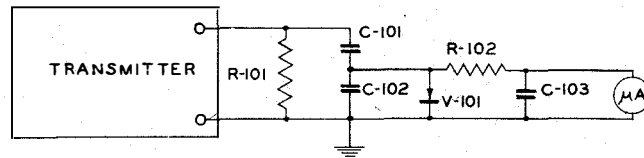
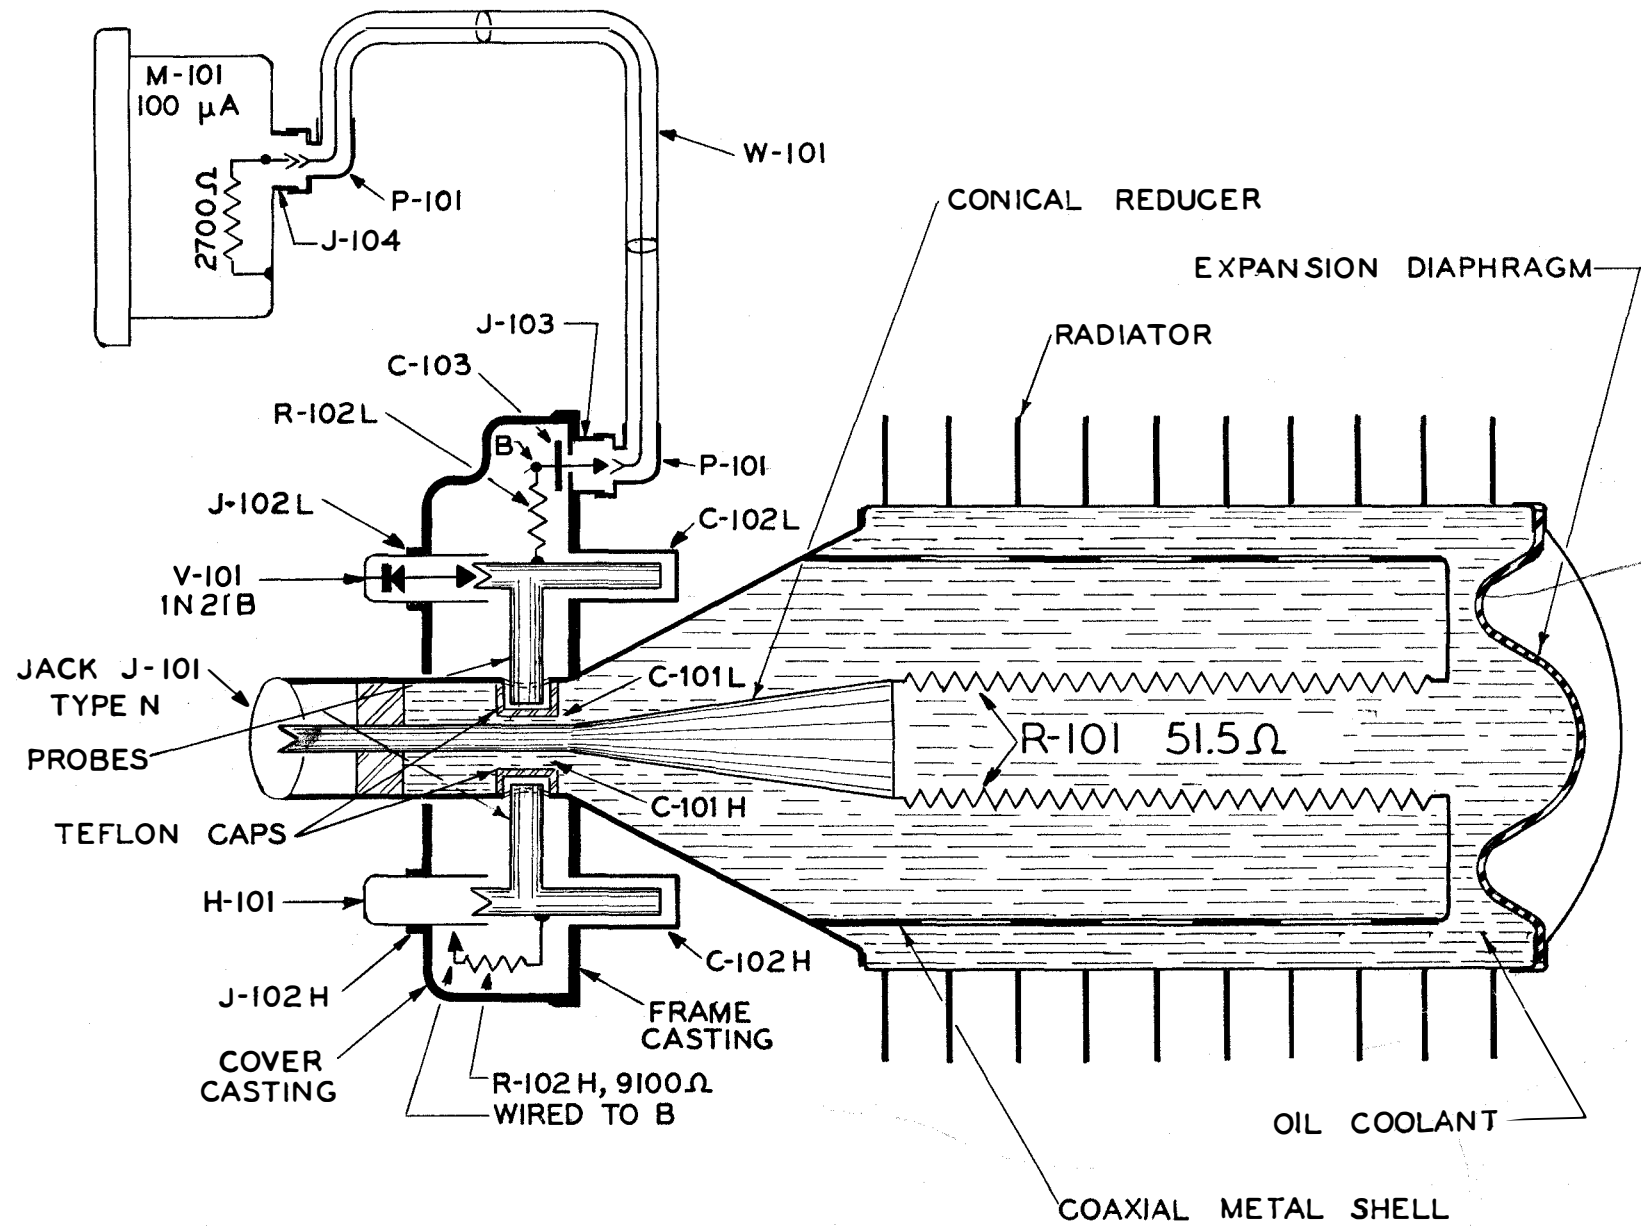
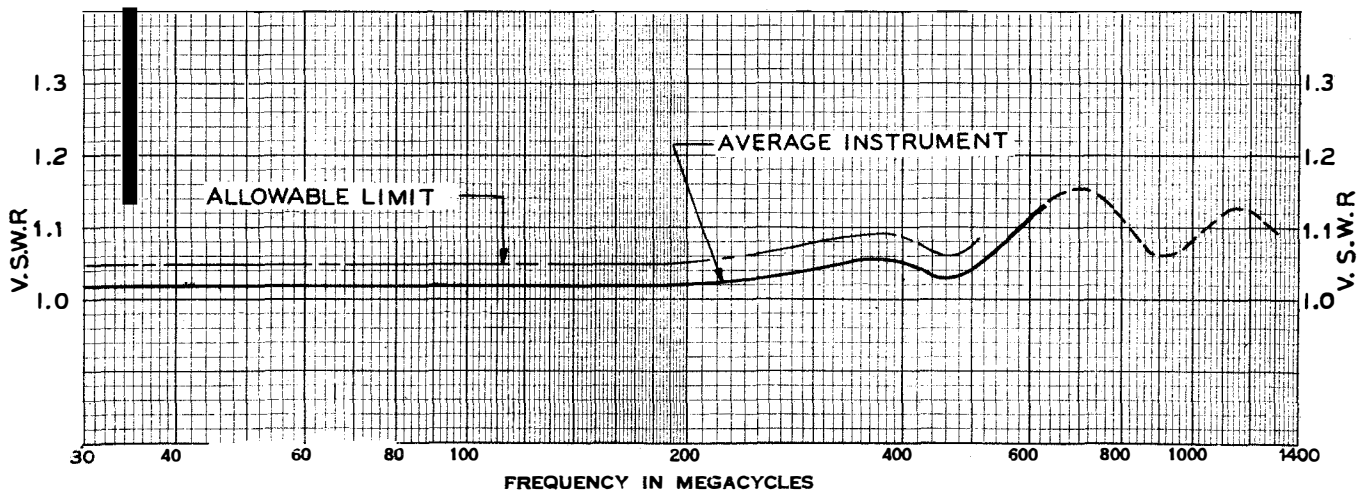

Fig. 2-3. RF Wattmeter ME-11/U Simplified Schematic
Fig. 2-4. Schematic Diagram, RF Wattmeter ME-11/U
Fig. 2-5. Voltage Standing Wave Ratio vs. Frequency - RF Wattmeter ME-11/U
3. VOLTMETER CIRCUIT (See Fig. 2-3 and Fig. 2-4)
4. LOAD RESISTOR CIRCUIT (See Fig. 2-4)
(1) Fig. 2-5 shows the VSWR introduced by the wattmeter when connected to a 51.5 ohm coaxial line. This smooth curve is free from rapid cyclical changes of VSWR with frequency which occur with lossy-line loads.
(2) The average curve represents results of tests on many instruments. All wattmeters will have VSWR's which fall below the "allowable limit" curve. Below 500 mc, the region 350 to 400 mc tends to show highest VSWR values.
(3) Below 150 mc, the VSWR curve is flat. The input impedance at J-101 is practically a pure resistance equal to the d-c input resistance. Value of this resistance is stamped on the top of the voltmeter housing.
(4) From 500 mc to 1500 mc, the VSWR may reach 1.2 at certain frequencies. The wattmeter may be used in this frequency range at full power rating, although the direct-reading wattmeter calibration will be off.
a. The schematic diagram Fig. 2-4 indicates how the parts are arranged in the voltmeter housing, consisting of the FRAME CASTING and the COVER CASTING. The circuit elements are designed into the structure to obtain the necessary rigidity. Heat resistant dielectrics are necessary in this instrument and such parts are made of either teflon or ceramic.
(1) The probes, which form part of C-101L and C-101H, appear on Fig. 2-4 as heavy vertical conductors entering holes in the sheath of the rf load lines. Teflon caps surround the projecting portion of the probes and retain the coolant. These probes consist of a tubular sleeve, and a tip, adjustable by spring-locked threads. This calibrating adjustment serves to vary the capacitance of C-101 by varying the distance between the probe and center conductor.
(2) The shunt capacitors C-102L and C-102H are each coaxial, consisting of an outer brass tube electrode, a ceramic sleeve dielectric and a center beryllium copper electrode. The spring center contact for the crystal is integral with this center electrode.
(3) RESISTORS R-102L and R-102H are 1/2 watt conventional metalized resistors.
- c. The time constant effect, which causes the sensitivity to decrease with frequency near the low end of the range. The time constant is the product of R-102 and C-102 in Fig. 2-3. This product must be made sufficiently high to maintain a full charge on C-102 between successive positive peaks of the input radio frequency.
c. AVOID operation in the "J-101 UP" position, i.e. resting on the expansion diaphragm cap at the rear of the radiator. In this position, any air within the coolant space will collect around the voltmeter probes (Fig. 2-4) and a change of dielectric constant in this region will affect calibration.